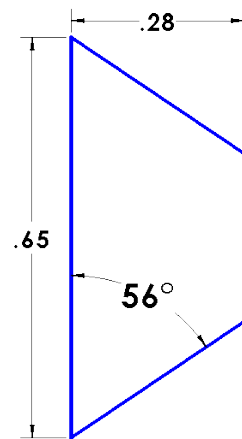

Fig. 25
Step 3. Dimension the angle **56° degrees** between the left line and bottom line as shown in **Fig. 25**. To dimension the angle, click both lines then move the cursor inside and click. Key-in **56** for the dimension and press ENTER.